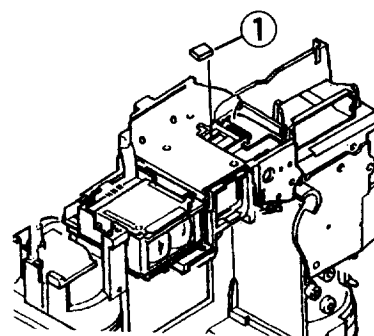

Fig5
- (11) Remove the FILTER (①). (Fig. 5)